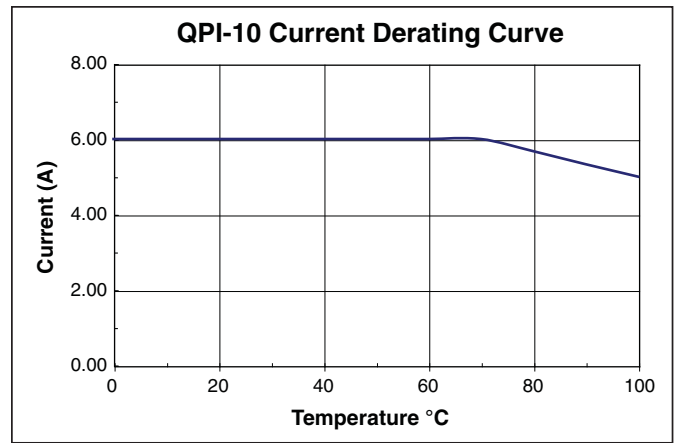

Figure 5 – QPI-10 current derating curve over temperature.
- -40° to +100°C PCB temperature (See Fig. 5)
Note 3: Refer to Figure 5 for current derating curve
The QPI-10's high-temperature rating of 6 A provides filtering for up to 288 W of power from a 48 V bus with a 70°C PCB temperature. It is well suited for the 200 W per board limit in the PICMG® 3.0. The 1.0" x 1.0" x 0.2" surface mount LGA package provides ease of manufacturing by eliminating through-hole assembly. The current derating curve, shown in Figure 5, should be used when the PCB temperature that the QPI-10 is mounted to exceeds 70°C.